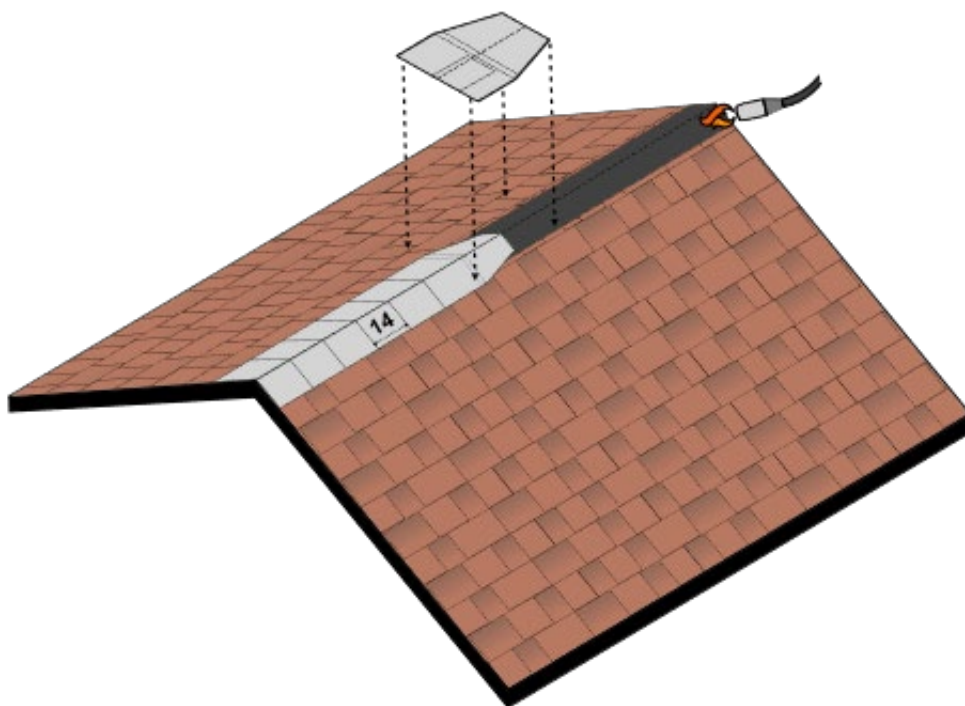

Fig. 20 - Ridge elements installation by torch
- Apply a band of bituminous membrane Safety EPP, about 25cm wide on the ridge by torch - Fig. 20.
- Proceed with the installation of the other ridge elements in sequence, leaving an exposed part of 14 cm between one element and the next, see Fig. 20.